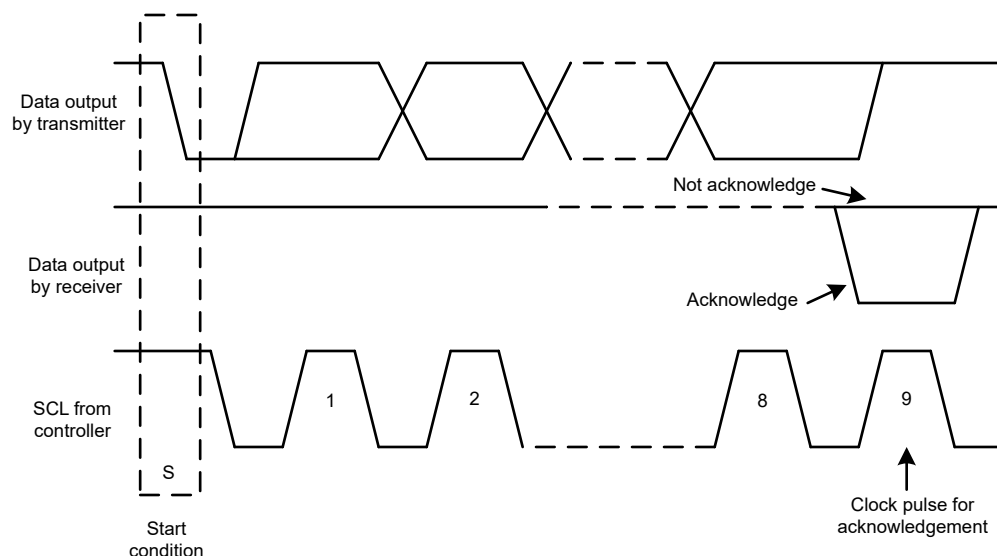
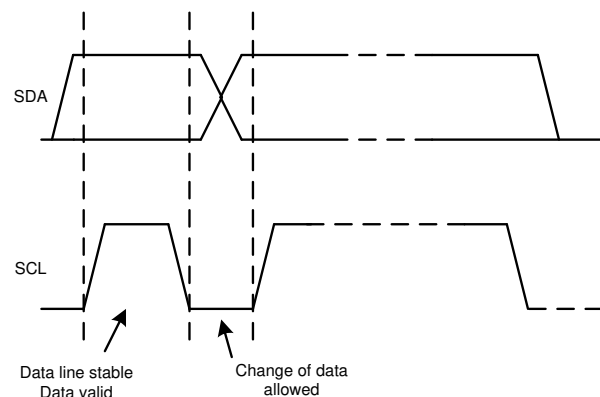

Figure 7-10. Acknowledge and Not Acknowledge on the I²C Bus
Figure 7-12. Bit Transfer on the I²C Bus
Other than specific timing signals, the I²C interface works with serial bytes. At the end of each byte, a ninth clock cycle generates and detects an acknowledge signal. An acknowledge is when the SDA line is pulled low during the high period of the ninth clock cycle. Figure 7-10 depicts a not-acknowledge, when the SDA line is left high during the high period of the ninth clock cycle.
2. The controller then generates the SCL pulses, and transmits the 7-bit address and the read/write direction bit ($R/\overline{W}$) on the SDA line. During all transmissions, the controller makes sure that data are valid. Figure 7-12 shows that a valid data condition requires the SDA line to be stable during the entire high period of the clock pulse. All devices recognize the address sent by the controller and compare the address to the respective internal fixed address. Only the target device with a matching address generates an acknowledge by pulling the SDA line low during the entire high period of the 9th SCL cycle (see also Figure 7-10). When the controller detects this acknowledge, the communication link with a target has been established.